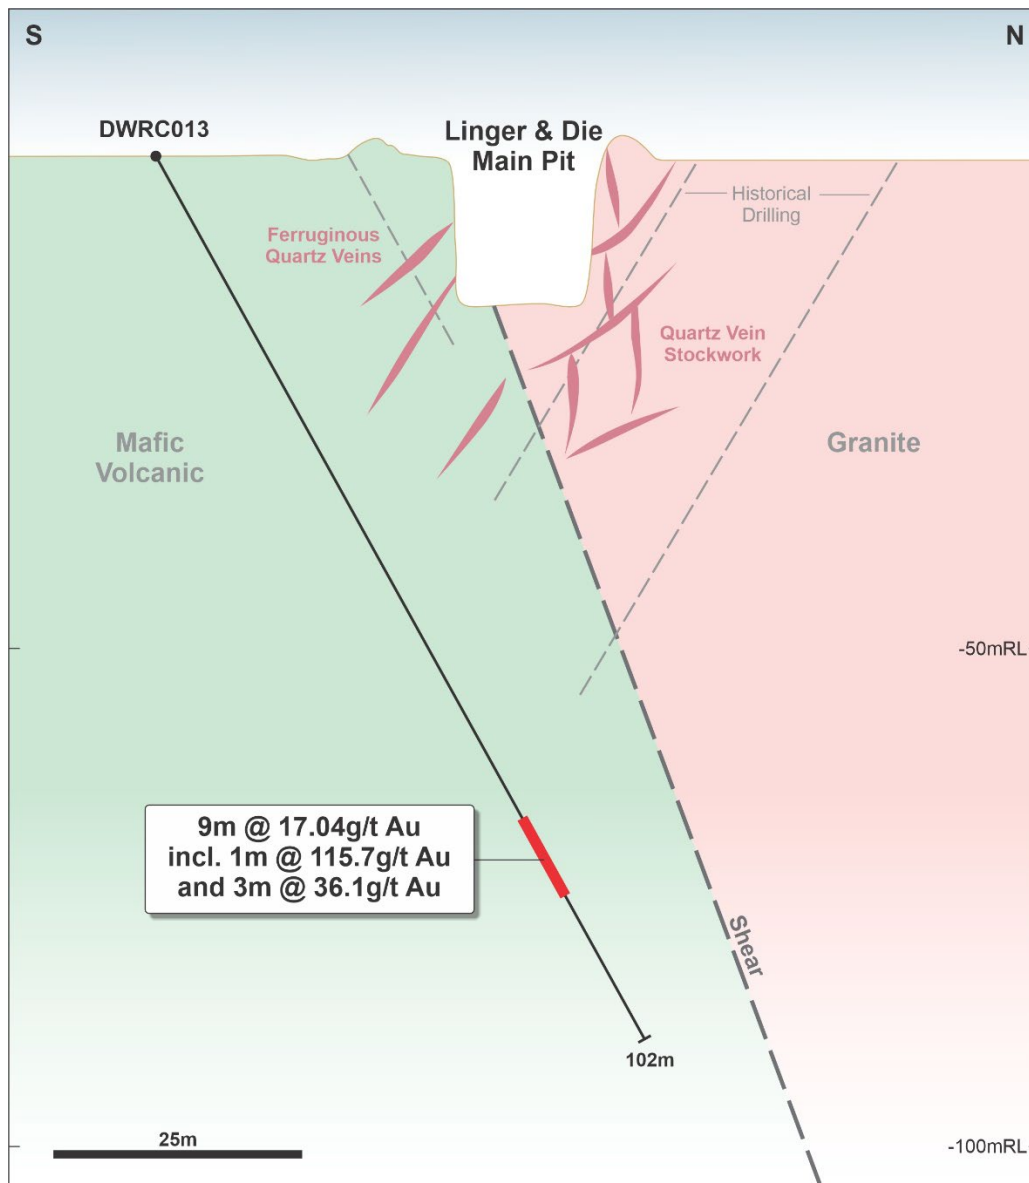

Figure 7 – Section 1 looking west – Hole DWRC013 under Linger and Die Pit.
- An intercept in Hole DWRC013 of **9m @ 17.04g/t Au from 76-85m** (see Figures 6 & 7) under the Linger and Die Pit associated with limonitic and haematitic quartz veining in a strongly weathered sheared mafic volcanic. It was interpreted as probably not being associated with the main north dipping shear zone in the pit (Figure 7) and hence required further drilling.